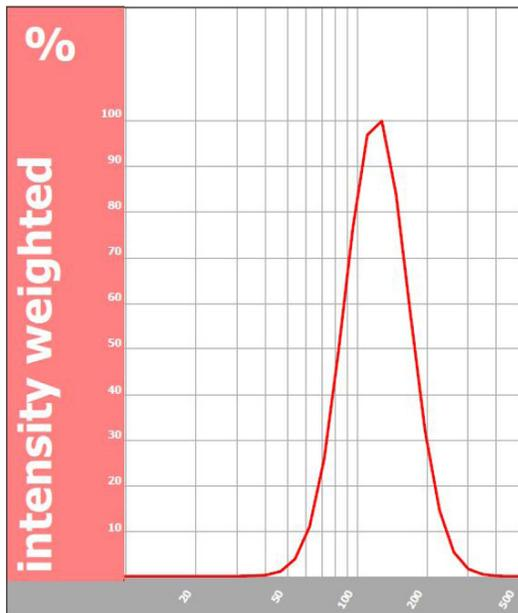

Figure 1. Black ink intensity mean size = 127.49 nm by DLS.
A commercial black inkjet ink sample was analyzed using DLS to determine the mean size and zeta potential. The sample was diluted 1000:1 in deionized (DI) water and a quick study was performed to assure size did not change with additional dilution. The results for the mean size and zeta potential as measured by the Nicomp DLS system are shown in Figures 1 and 2.